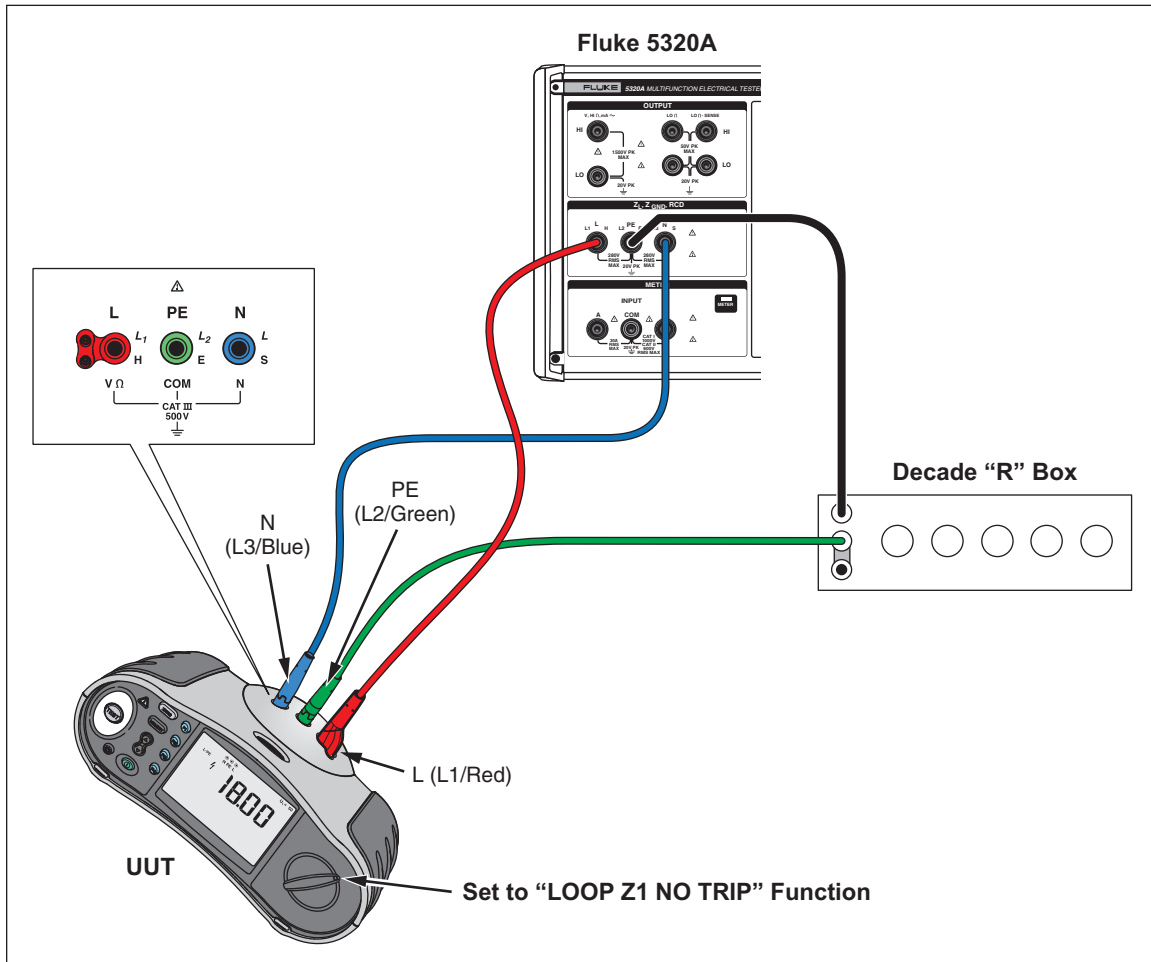

Figure 7. LOOP Z1 NO TRIP Test
1. Connect the test leads to the UUT, Decade R Box, and 5320A, as shown in Figure 7.
Before performing the following test, remove the Decade R Box used in Figure 7. Failure to do so will result in damage to the decade resistors. Setting the function switch to the LOOP Z HI CURRENT function, or selecting L-N test with (F1), will result in damage to the Decade Resistor Box when (TEST) is performed.